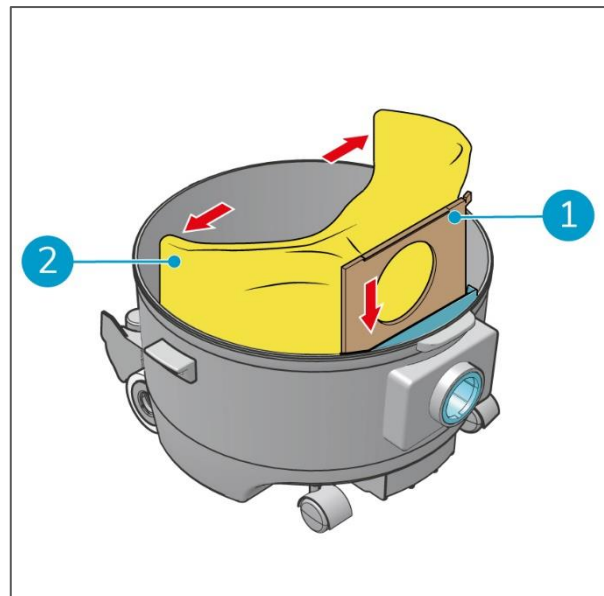

Figure 12
10. Slide the cardboard collar of the new dust bag (Figure 12, pos 1) fully into the slots to insert the dust bag.
11. Unfold the dust bag (Figure 12, pos 2).